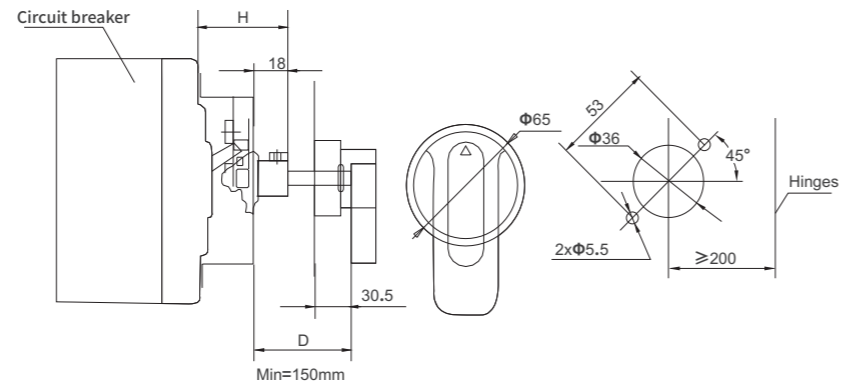

Figure 7. Mounting dimensions of the manual operator
9. See Figure 7 and Table 5 for the manual operator